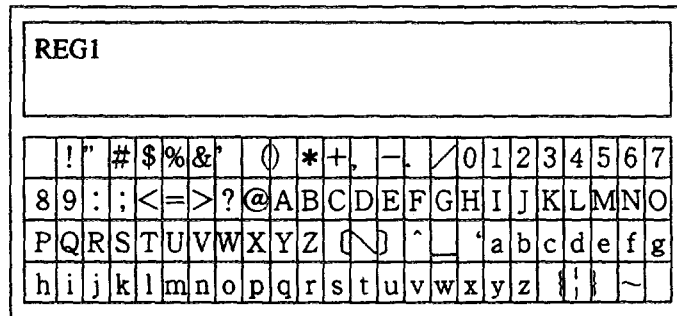

Figure 7-6 Label Window Display
[EDIT NAME] : ... Displays the label window (Figure 7-6) and calls the character editing menu. (Go to step 5.)
4. Press the [EDIT NAME] to display the label window (Figure 7-6) and calls the character editing menu.